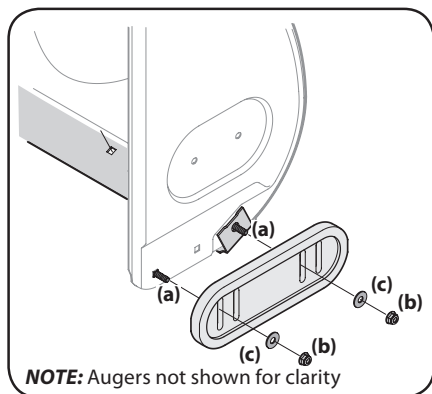

Figure 4-1
2. Rotate and reassemble new skid shoes with four carriage bolts (a) (two on each side) and hex flange nuts (b) and flat washers (c). Refer to Figure 4-1.